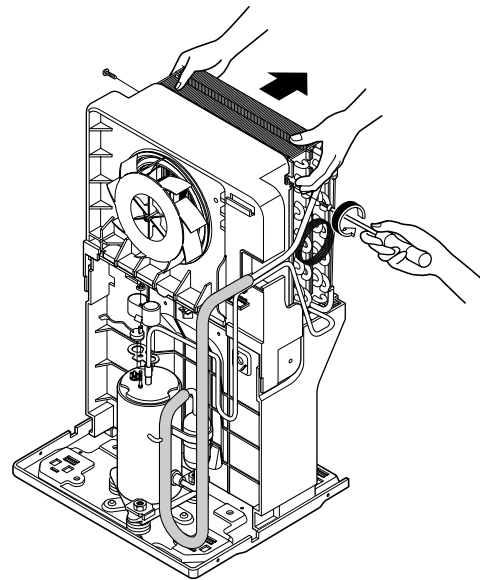

Figure 18
6. Remove the H/E assembly from the shroud. (See Figure 18)